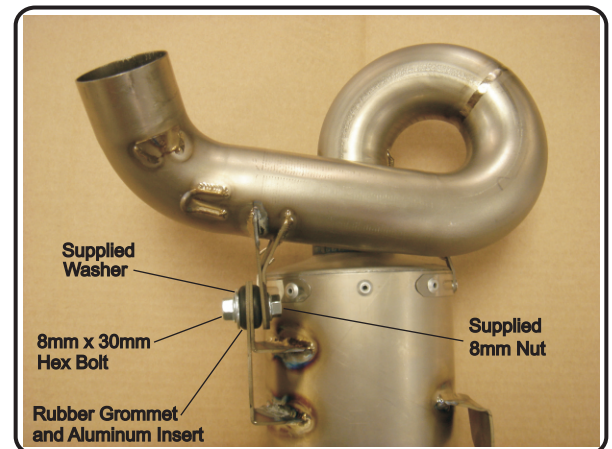

Fig. 6
- 11 Slide Yoshimura tailpipe #1 into oval muffler. Connect Yoshimura tailpipe #1 to oval muffler using the supplied exhaust springs, bolt, washer, rubber grommet, aluminum spacer, and nut (see Fig. 6 and Parts Diagram on page 6).